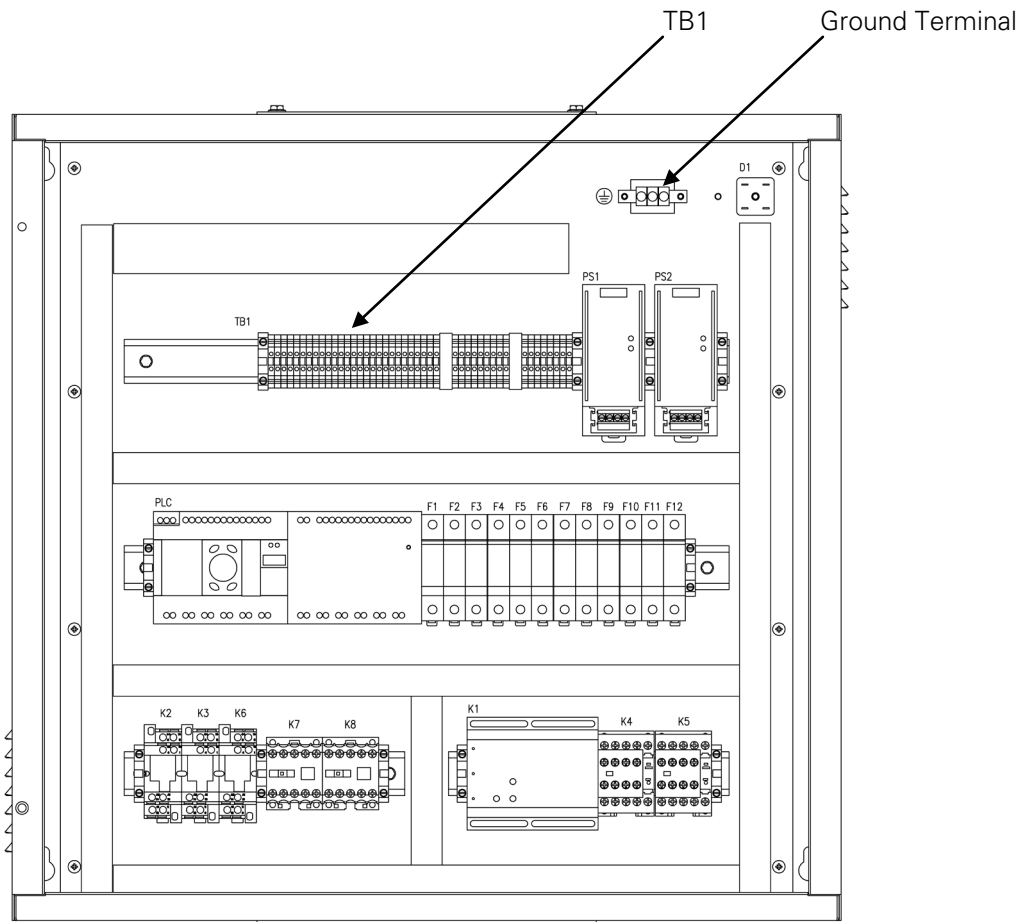
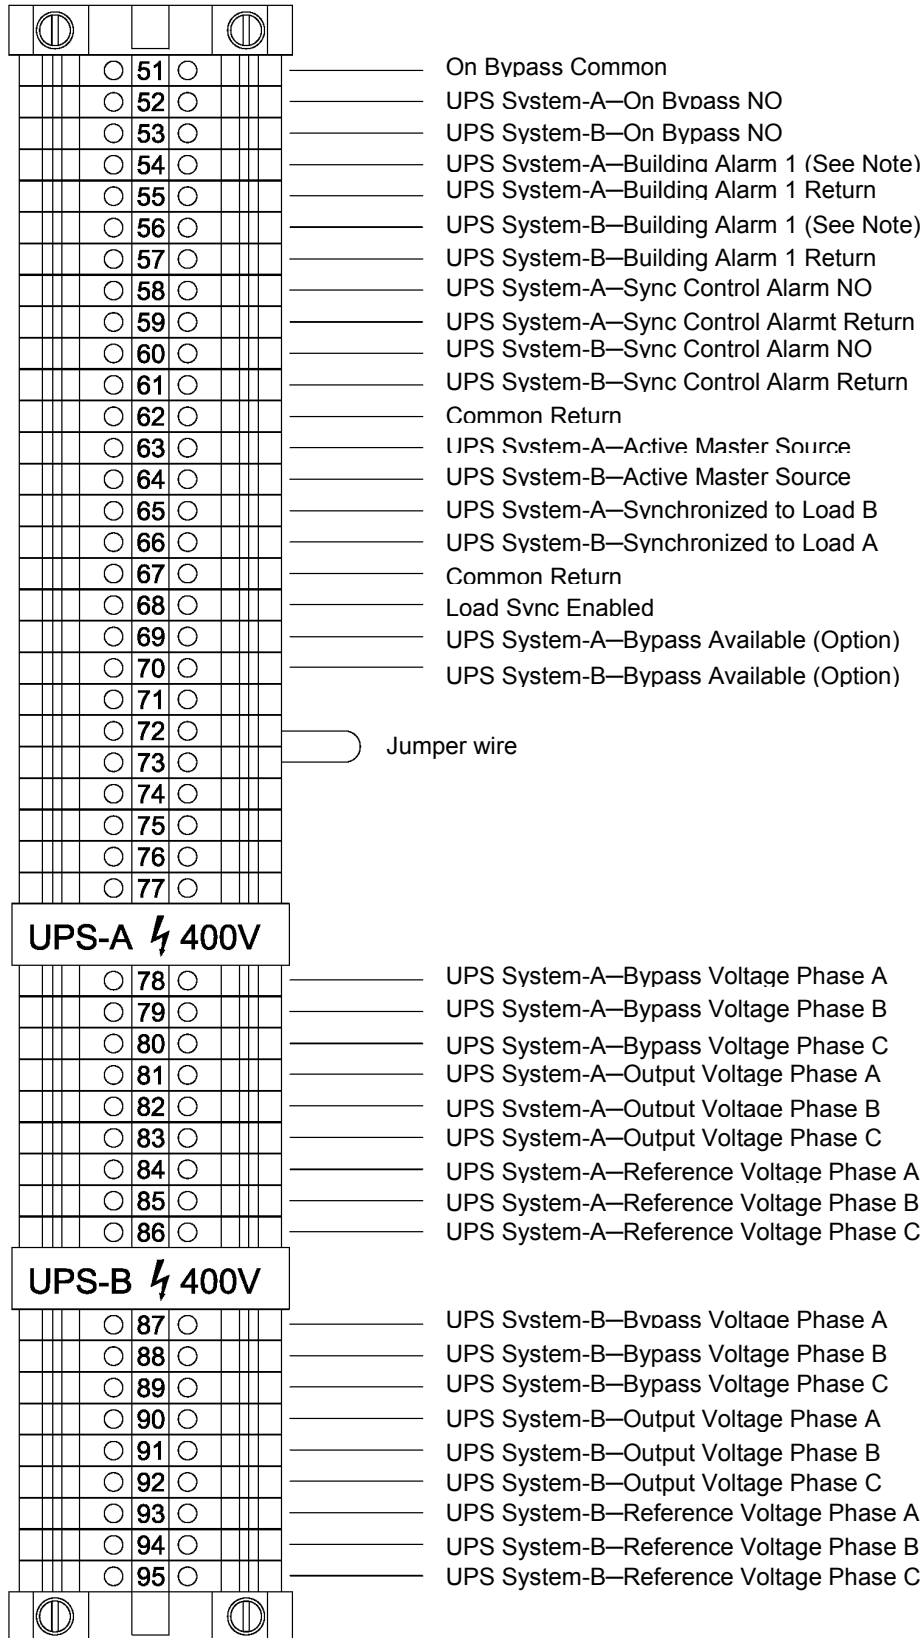

Figure 3-1 Eaton Sync Control Typical Control Wiring Termination Locations
Figure 3-2 Eaton Sync Control TB1 Terminal Block Detail for 9395P
Figure 3-1 on page 14 shows the Eaton Sync Control TB1 terminal block and ground terminal locations. Figure 3-2 on page 15 shows the TB1 terminal block wiring detail.
4. Verify the jumper is installed between Eaton Sync Control terminal TB1-72 and TB1-73 (see Figure 3-2 on page 15).
Figure 3-2 on page 15 shows the TB1 terminal block wiring detail.